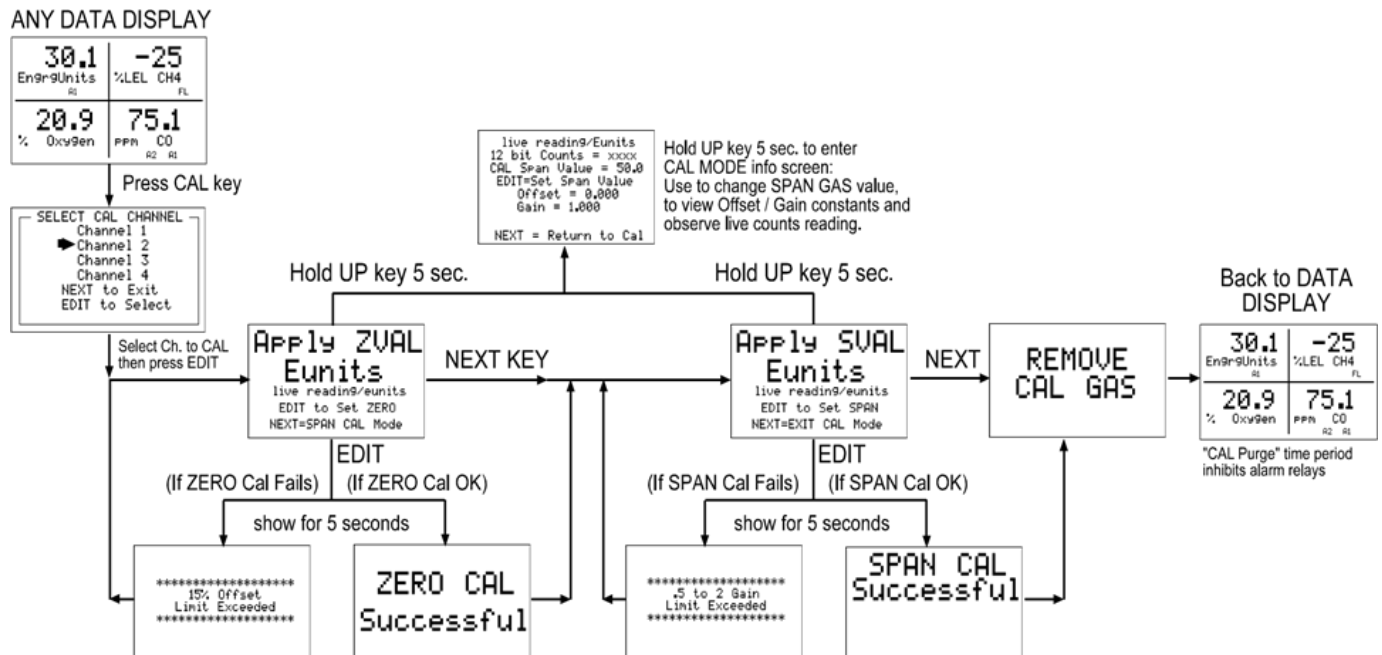

Figure 3-8 – Calibration Input Menu Tree
The menu shown in Figure 3-8 allows configuring of both the standard Relay 1 & Relay 2 motherboard relays and the six optional relays on the discrete relay option PCB. Both standard and optional relays are programmed in this menu. Select the relay to be configured by pointing the arrow at the top menu item and pressing EDIT. The field will scroll through all eight possible relays (2 standard and 6 optional).
- Fault, Alarm 1, Alarm 2, Alarm 3 menus in Figure 3-8 offers additional “voting” flexibility by controlling the channel alarm combinations that will trip the selected relay. Each Votes entry requires this quantity of channels, for of each type alarm be active before this relay activates. As illustrated in Figure 3-8 above, Standard Relay 1 activates when any 2 channels have Alarm 1 conditions, PLUS, any one channel has an Alarm 2 condition. And since the Override menu (see description below) contains the Ch1A2 entry Standard Relay 1 also activates if alarm 2 on channel 1 trips. Fault Votes and Alarm 3 Votes values are 0 therefore Fault and Alarm 3 conditions will not affect this relay. Votes follow the logical “AND” function.